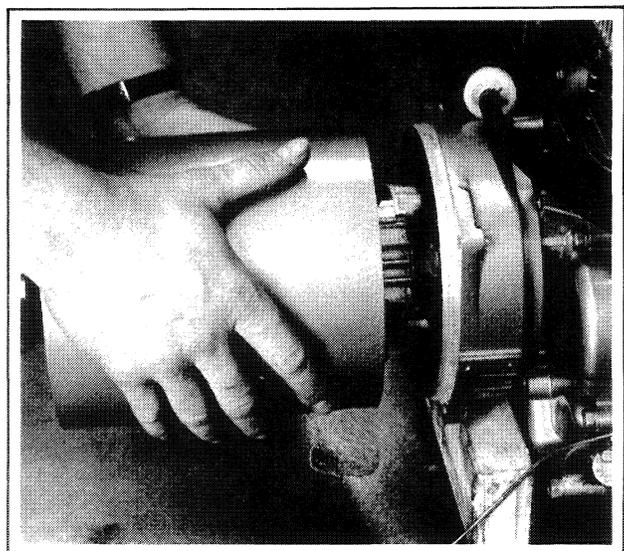

Figure 2-21. Drawing Stator Over Rotor
2. Slide stator over rotor. Position stator tightly against adapter. Figure 2-21.